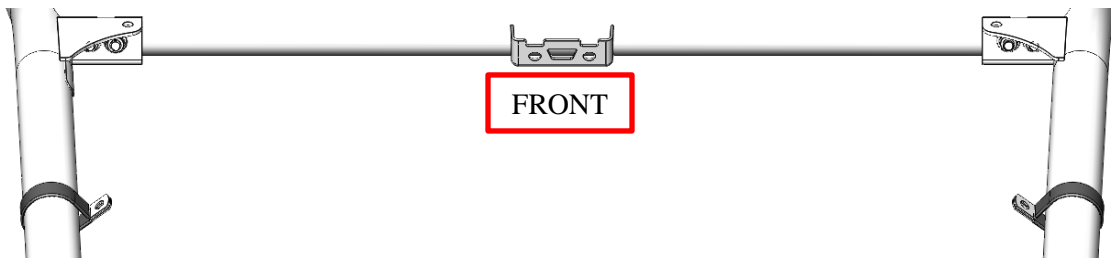
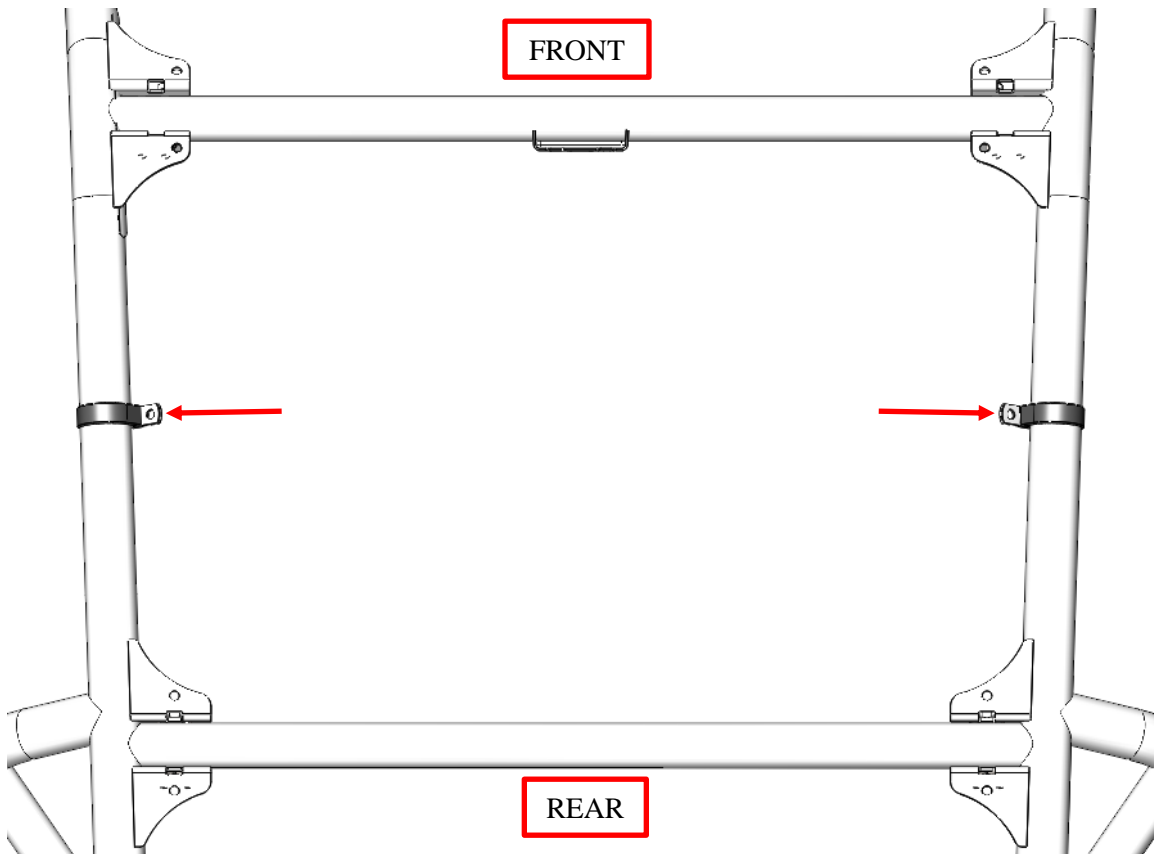

Figure 3: Loop clamp orientation on the cage.
Figure 4: Approximate locations of the loop clamps.
3. Place the provided loop clamps in the approximate mounting locations on the outside roll bars. The *Audio Mini* brackets will mount to the loop clamps and be tightened in the following steps. Be aware of the orientation of the loop clamps on the cage. See Figure 3 and Figure 4.